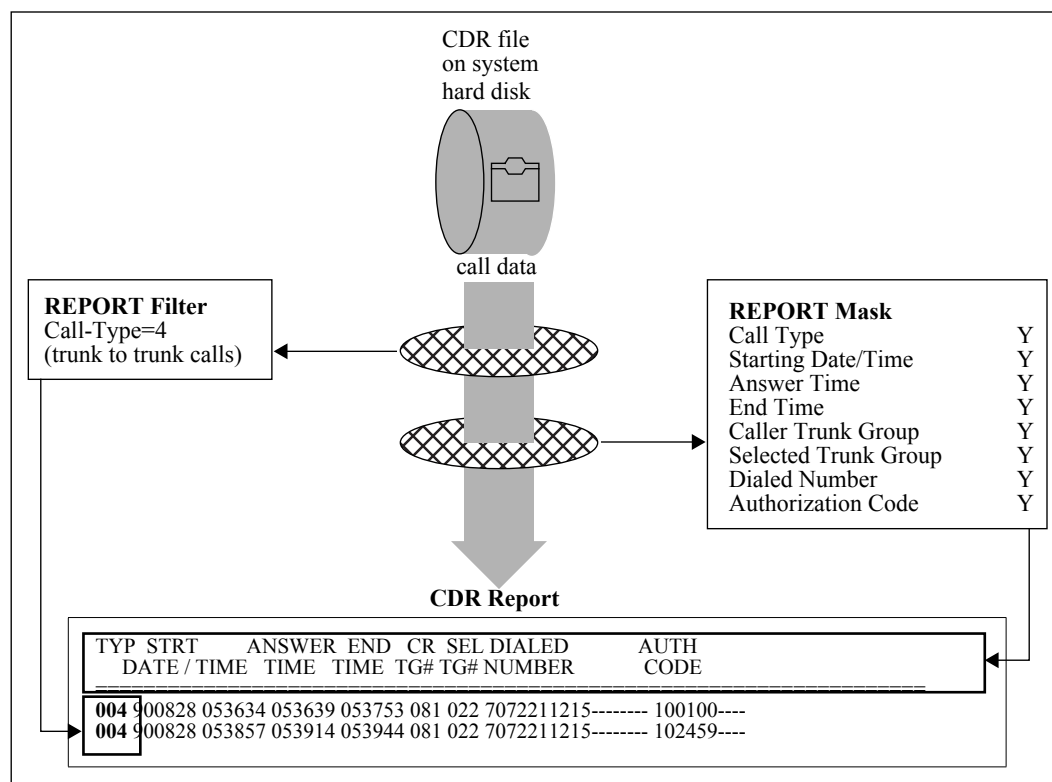

Figure 7-3. Filters and Masks
Figure 7-3 illustrates the difference between filters and mask. In the example, the filter tells CDR to collect all trunk to trunk calls and mask tells CDR to display a selected set of fields in the REPORT output.
- 2 The following example illustrates how the system prompts you for each field to include in a mask. The mask defined is the one used in Figure 7-3 (start date and time, answer time, end time, caller trunk group, selected trunk group, dialed number, and authorization code).